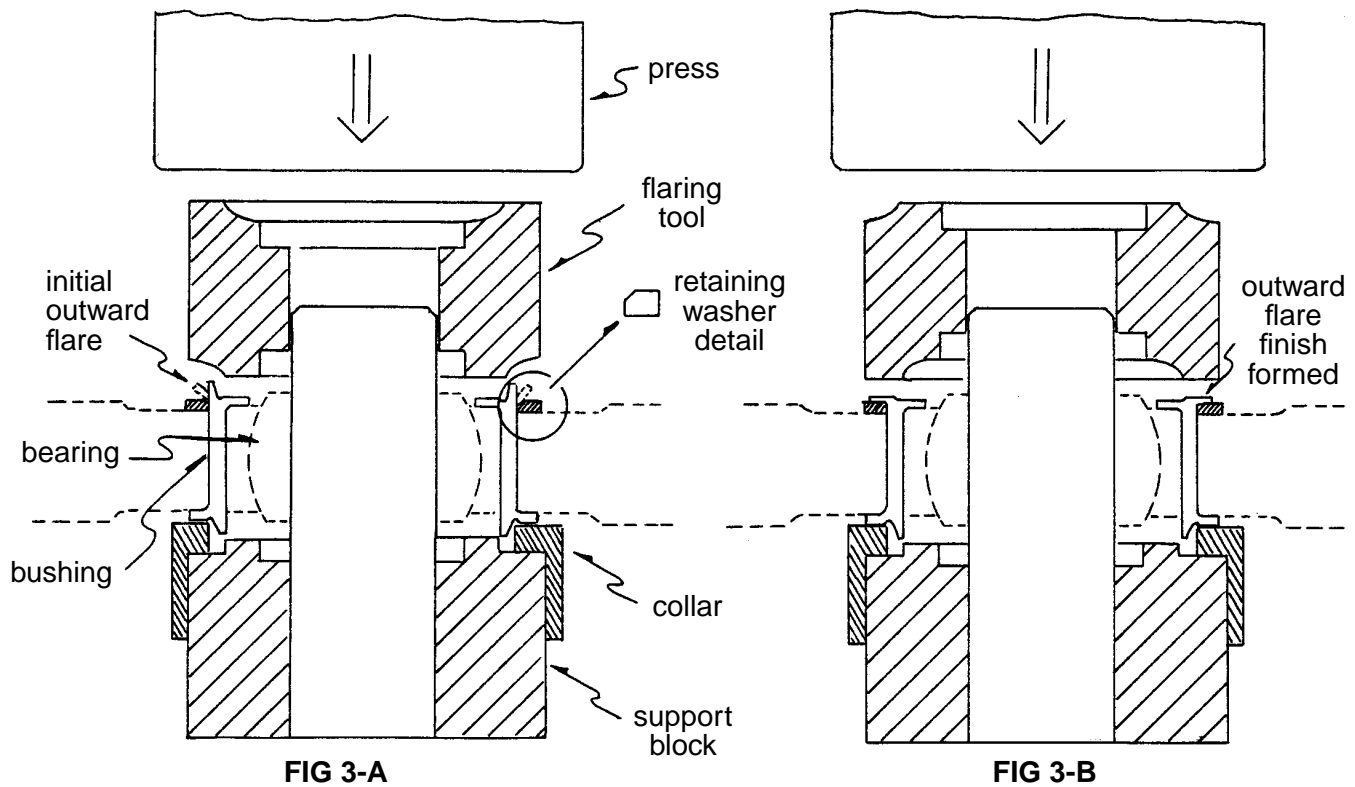

Figure 3 - CSP 314 Bushing Outward Flare
- Step 4. Install the bushing retaining washer on the bushing with the radiused inside edge facing upwards, as shown in Figure 3-A.
- Step 6. Apply pressure to form the initial outward flare on the bushing as shown in Figure 3-A.
- Step 7. Reverse the flaring tool and apply pressure to finish form the outward flared flange as shown in Figure 3-B.